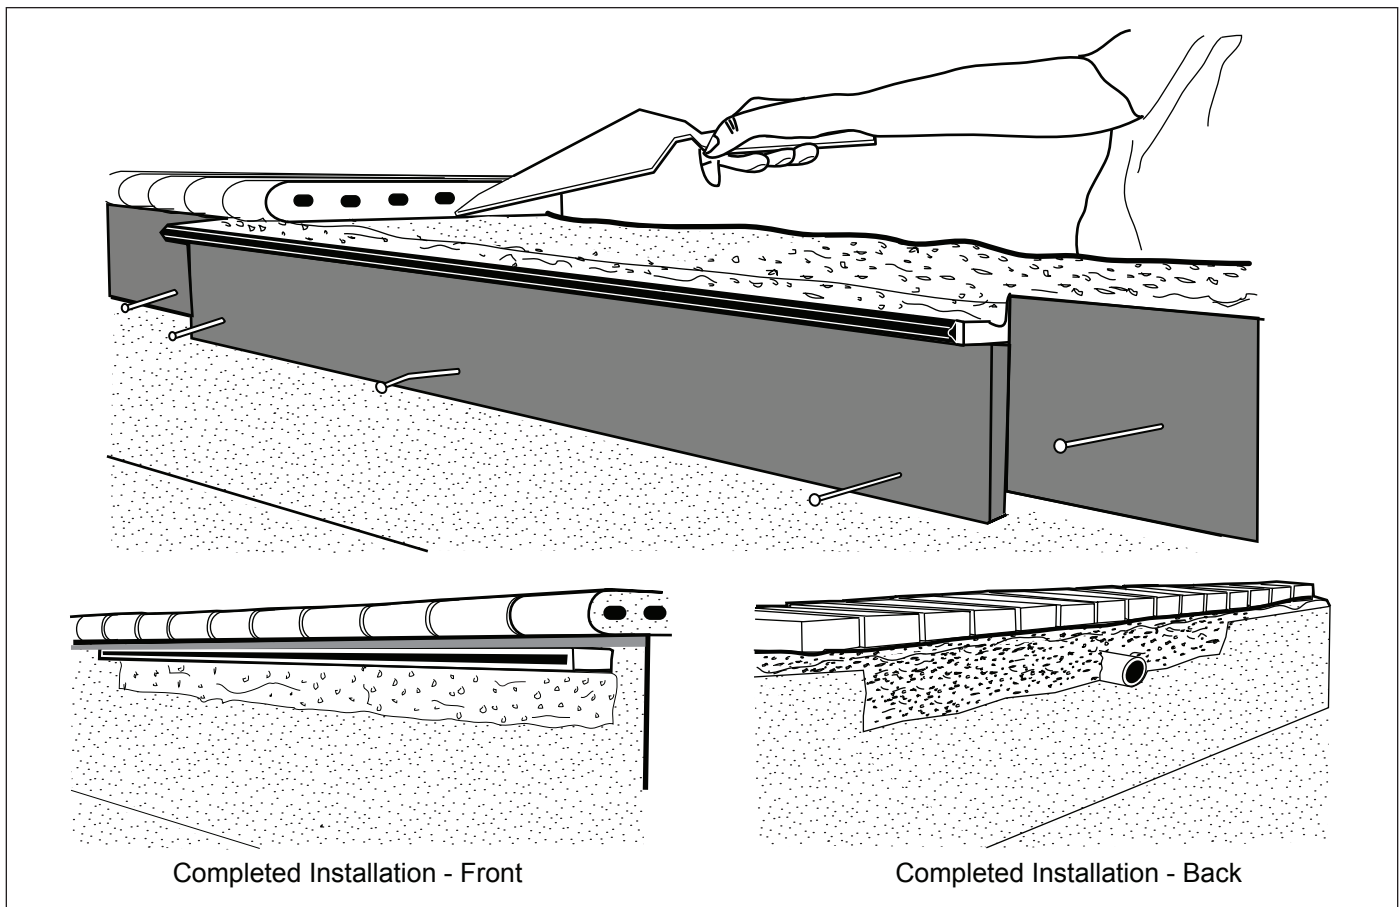

Figure 9. Finishing the WaterFall Installation
1. Use thin-set to install coping material onto cement on top of waterfall. Tap in and level. Refer to Figure 9.